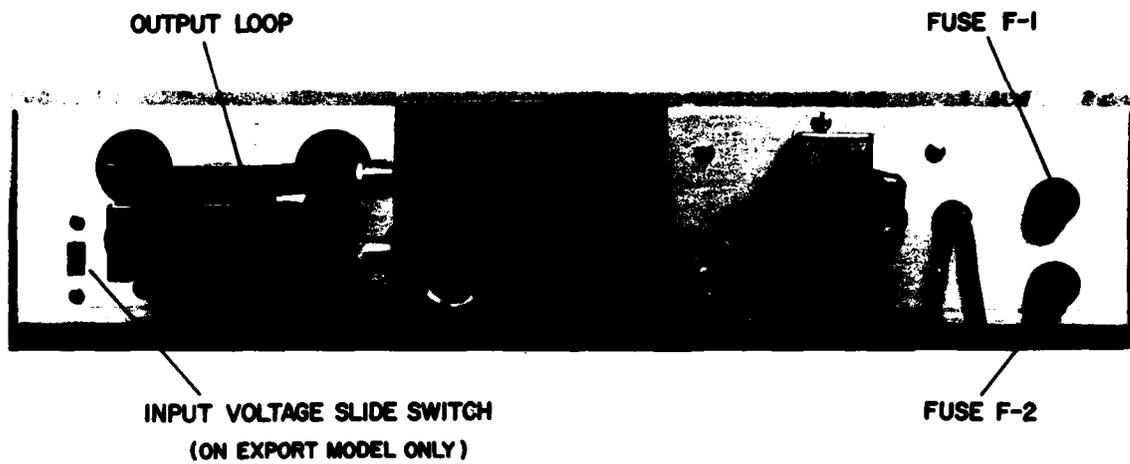
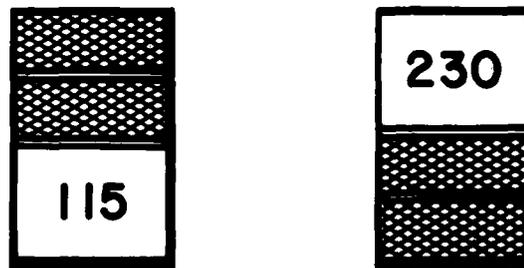

FIGURE 4. SPI-PULSE 25 WITH REAR PANEL REMOVED
FIGURE 5. THE TWO SLIDE SWITCH SETTINGS
3. Adjust with a small screwdriver the slide switch located on the lower left-hand side of the internal aluminum chassis (see Figure 4). Slide the switch so that the desired input voltage — "115" or "230" — appears in the window associated with the slide switch (see Figure 5).
NOTE 2: Be careful not to put pressure on the output loop extending through the rear of the chassis (see Figure 4).